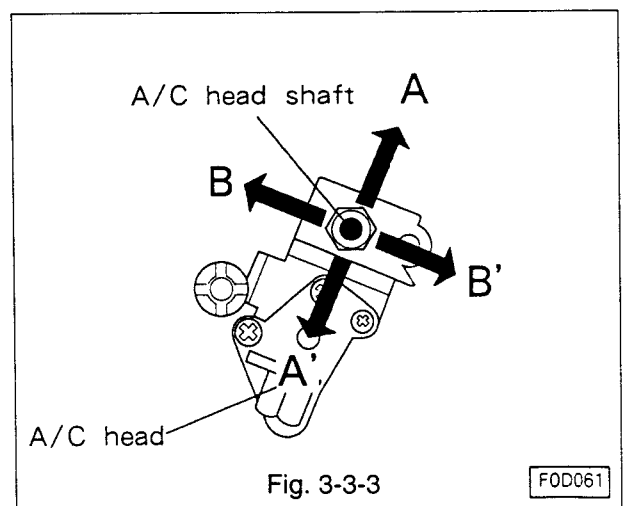

Fig. 3-3-3
- E. Apply a force lightly to the A/C head shaft in the direction of A and A' of the arrow shown in Fig. 3-3-3 to make certain that the audio output level remains at maximum level and does not change.
- F. If the level changes, turn the nut A (height adjusting) so that the audio output level shall be maximum. Apply a force lightly to the A/C head shaft in the direction of B and B' of the arrow shown in Fig. 3-3-3 and adjust so that the sound output level shall be maximum.